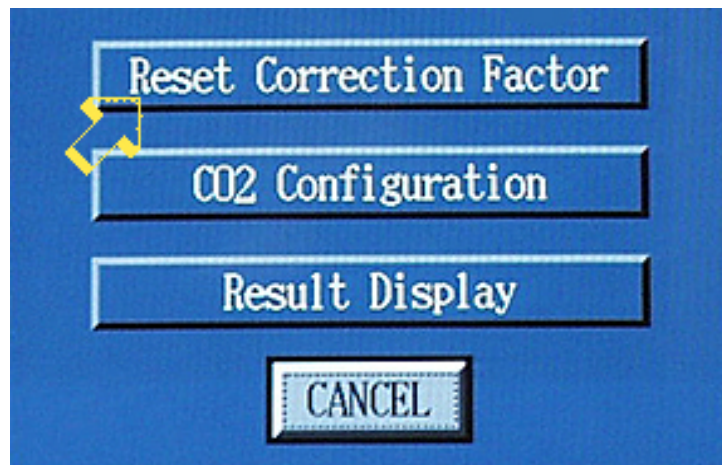

Figure 8
- 106 When "Interference Check" screen appears, click on the "Reset Correction Factor" button. See Figure 8.